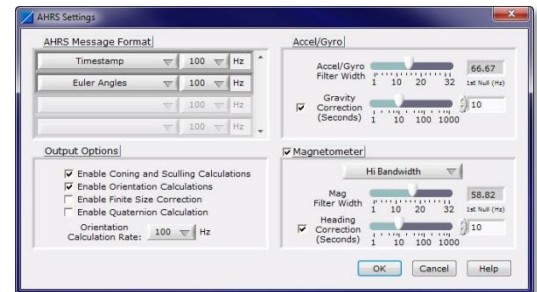

Figure 2: AHRS Settings
- Note in the Activity readout that the device state is reported as *Not Connected*, as shown in figure 2; this indicates that the 3DM-GX3[®]-25 is in idle state. Confirm the idle state by observing the yellow Activity LED on the 3DM-GX3[®]-25. The LED will be coming on and going off, coming on and going off, about every one second.